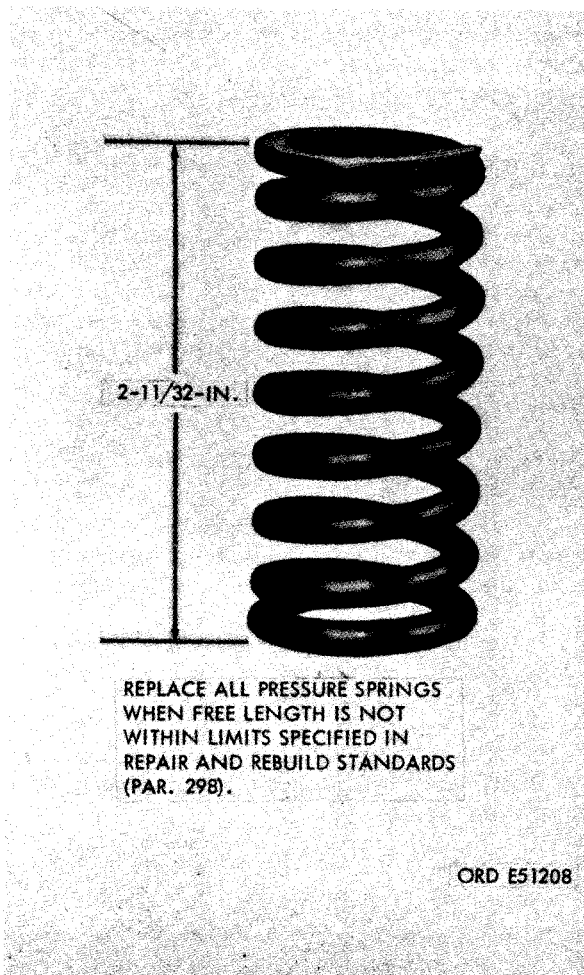

FIGURE 458. CHECKING FREE LENGTH OF PRESSURE SPRING.
- (2) Pressure springs. Inspect the 16 pressure springs (B- 6) for distorted and set condition. Check free length of each pressure spring using a height gage. Free length of pressure springs should be 2-11/32-inches as shown in figure 458.